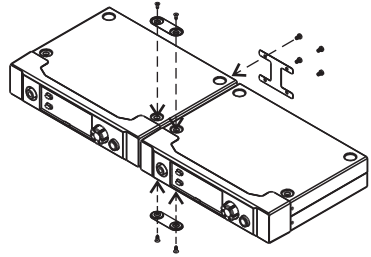

Fig. 14
- (B) Install top & bottom connecting plates to secure both receivers, Fig. 14.